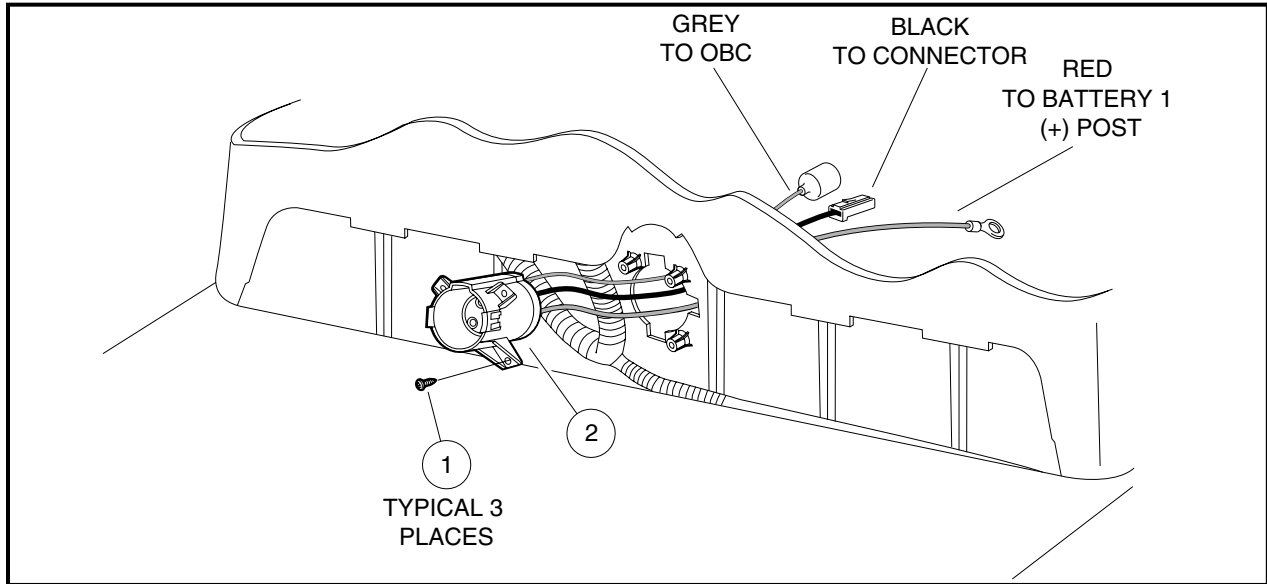

Figure 12-11 Charger Receptacle
4. Remove the 10-gauge red wire from the positive post of battery no. 1 (**Figure 12-11, Page 12-15**).
7. Remove the three screws (1) that secure the charger receptacle (2) to the bucket.
1. Insert the wires through the hole in the bucket (**Figure 12-11, Page 12-15**).
2. Insert receptacle (2) into bucket.
3. Install the three screws (1) that secure the receptacle to the bucket. Tighten screws to 16 in-lb (1.8 N·m).